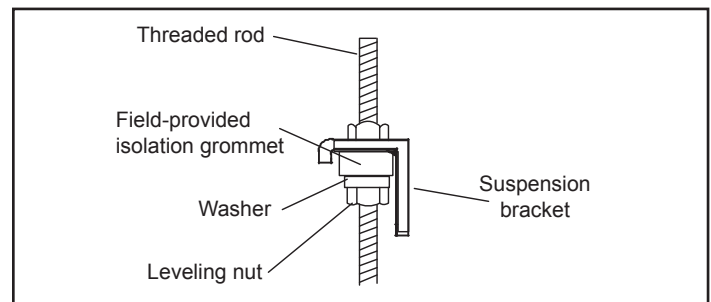

Figure 6. Locate Suspension Bracket on Threaded Rod
- Slide a washer and then a nut onto each rod below each suspension bracket. Use the leveling nut (beneath suspension brackets) to adjust the unit base to the correct height. Remove the electrical tape holding the upper washers and nuts in place and tighten each of the four nuts above the brackets down onto the brackets. This will ensure that the unit remains level. See figure 6.